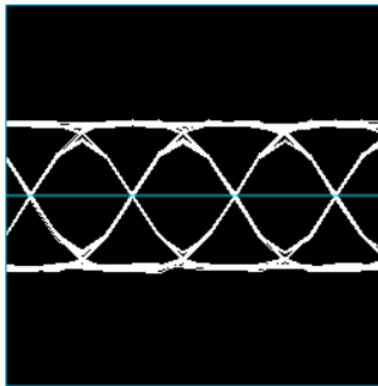

Figure 168: "Clean" Eye Pattern
- The eye pattern NEVER looks "clean," as in Figure 168